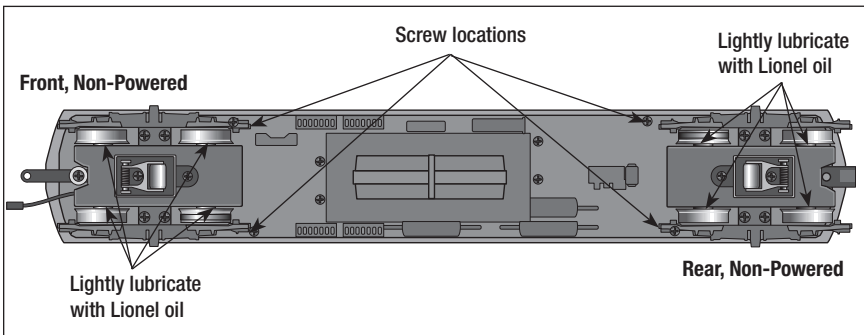

Figure 6. Lubrication points
When you find that the lubrication points illustrated in Figure 6 appear dry, lubricate your Subway after you have removed any accumulated dirt and dust. There are two basic rules to keep in mind when you are lubricating your Subway: use only a small amount of lubrication and avoid getting grease or oil on your Subway's wheels, roller pick-ups, or the track.
**G**eneral internal lighting in the cars is provide by two types of incandescent bulbs. Removing the screws as show in Figure 6 on page 10 will allow access to the interior of the cars. Due to the complexity of the disassembly required, we recommend that you take your Subway to your authorized Lionel Service Center for any lamp replacement.